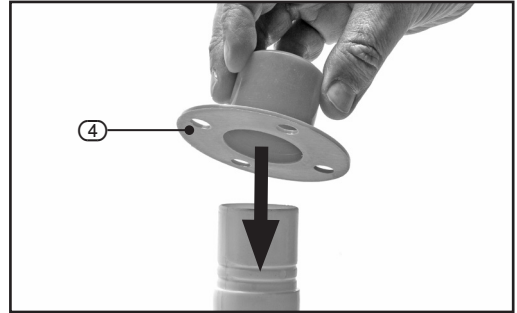

FIG. 3
4.3 FITTING THE BARRIER CHAIN CONNECTORS – FIG. 3.